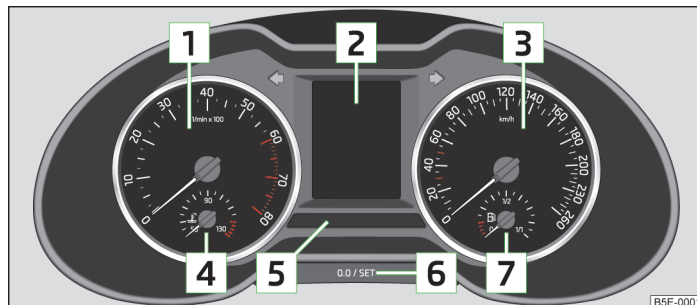

Fig. 2 Instrument cluster
- Never operate the button **6** in the instrument cluster » Fig. 2 on page 11 while driving, only when the vehicle is stationary!
The red scale of the revolution counter **1** » Fig. 2 on page 11 indicates the range in which the system begins to limit the engine speed. The system automatically restricts the engine speed to a steady limit.
- Briefly press the button » Fig. 2 on page 11.
- Press and hold the button » Fig. 2 on page 11 until the **Time** is shown in the display.
- Press and hold the button » Fig. 2 on page 11 until the **Battery status** or **BATTERY SOC** is shown in the display.